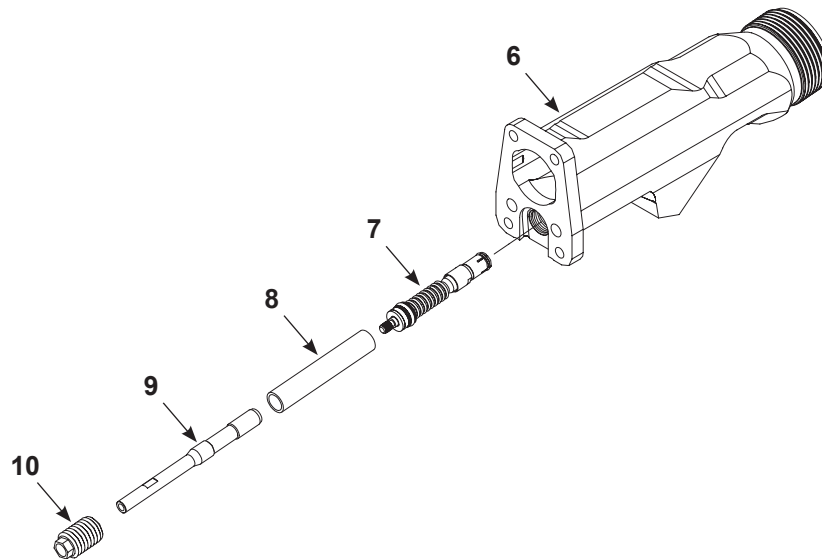

Figure 7-8 Re-Assembly
4. See Figure 7-8. Unscrew the packing cartridge retainer (10) from the extension (6).
2. See Figure 7-8. Apply a removeable threadlocking adhesive (Loctite 242 or equivalent) to the threads of the new packing cartridge (7).
3. Screw the pull shaft (9) onto the packing cartridge.
6. Slide the sleeve (8) over the pull shaft and up against the packing cartridge.
11. Apply a liberal coating of dielectric grease to the multiplier contact spring (18A) and front 1/3 of the multiplier (18).
12. Install the extension (6) over the multiplier and push it up against the spacer.